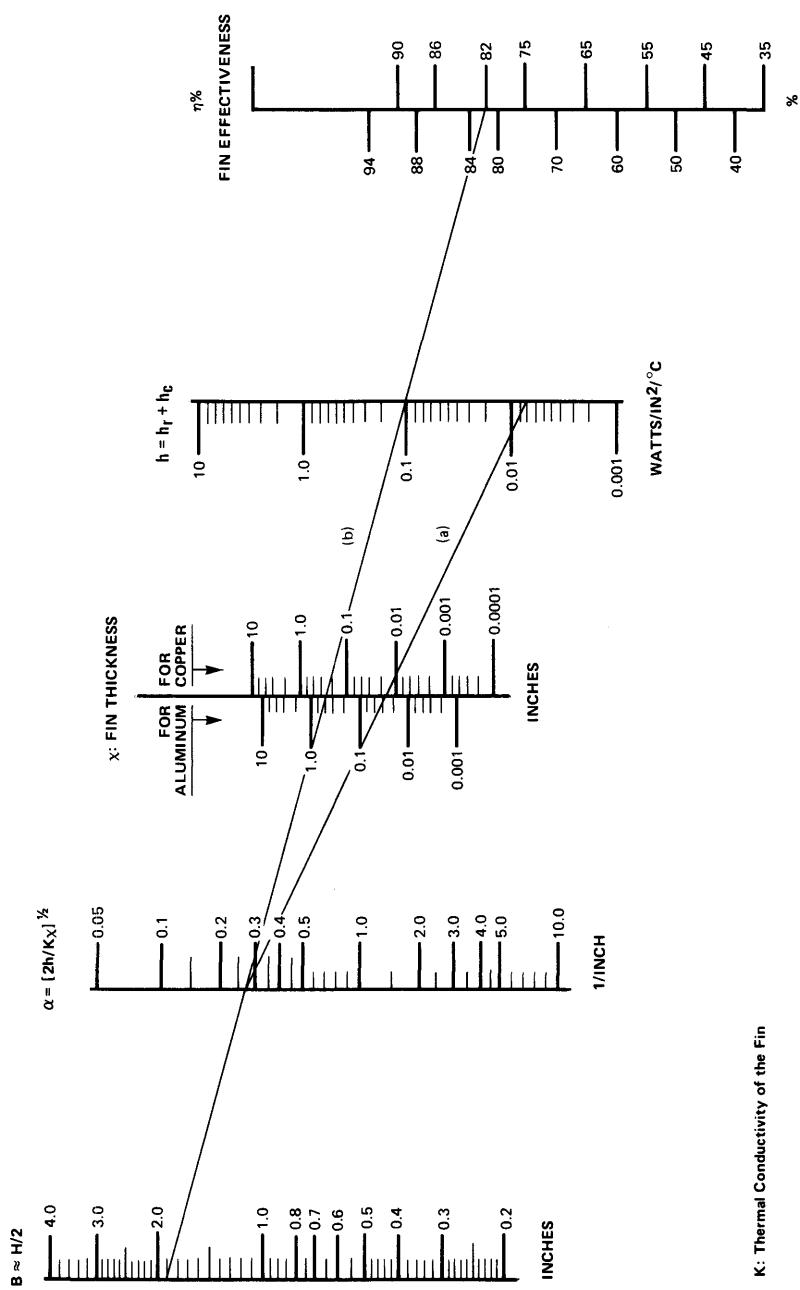

FIGURE 6.2. Fin Effectiveness Nomogram for Symmetrical, Flat, Uniformly-Thick, Vertically Mounted Fins
Fin effectiveness factor η includes the effects of fin thickness, shape, thermal conduction, et al. It may be determined from the nomogram of Figure 6.2.
The procedure for use of the nomogram of Figure 6.2 is as follows:
- Find fin effectiveness factor η from Figure 6.2.
e) $\eta = 0.85$ from Figure 6.2.
e') $\eta = 0.75$ from Figure 6.2